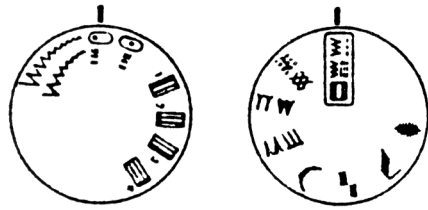

Fig. 2
The lifting clearance between the feeler finger 2 and the highest points of the zigzag cam 1 must be 0.1-0.2 mm (fig. 2 and 2b).
- Set stitch control knob as shown in fig. 2.